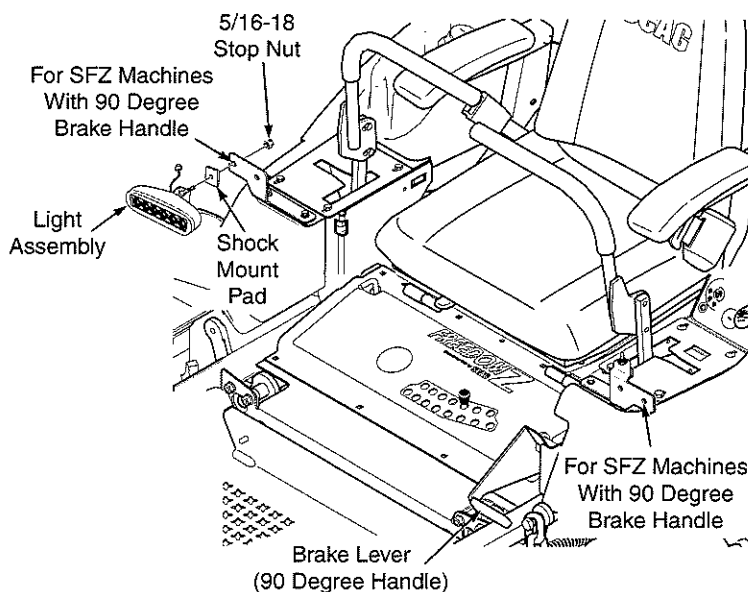

Figure 6. Install Light Assemblies
7. Install (1) one light assembly and (1) one shock mount pad to the RH & LH light mounting brackets and secure using the 5/16-18 x 3/4" bolt(s) installed in the previous step, and (1) one 5/16-18 elastic stop nut. See Figure 6. Do not tighten hardware at this time. *Note - SFZ machines equipped with 90 degree brake levers (identified below) will require the light assemblies to be installed in the outer mounting holes provided in the light mounting brackets. SPZ and SFZ machines fitted with straight brake levers may use inboard or outboard holes.*